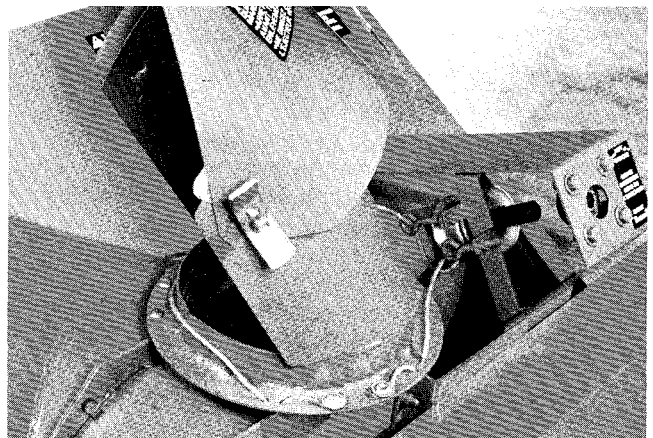

Figure 6
6. Slide chute onto snowthrower with spout opening toward front. Secure front and right sides of chute to snowthrower (Fig. 6).
7. Route directional control cables around chute, through holes in chute and secure with remaining clamp and fasteners (Fig. 6).